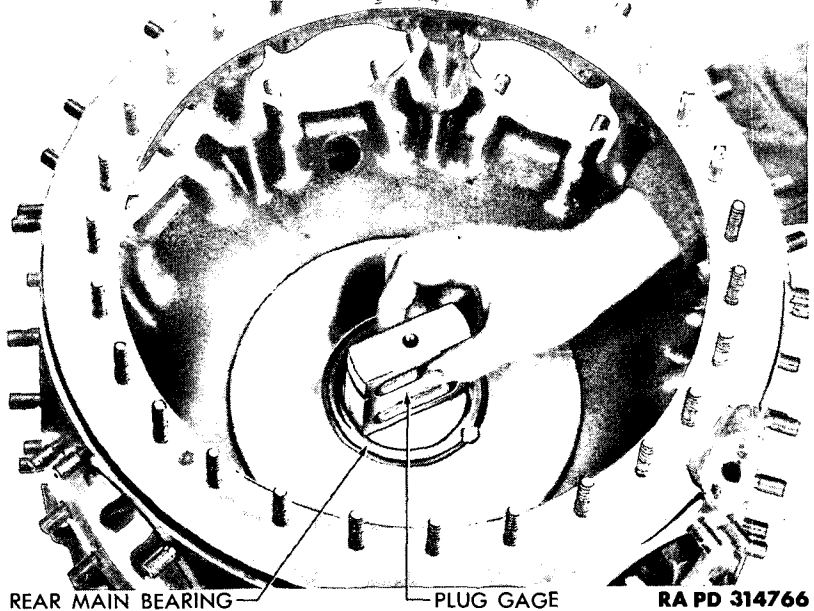
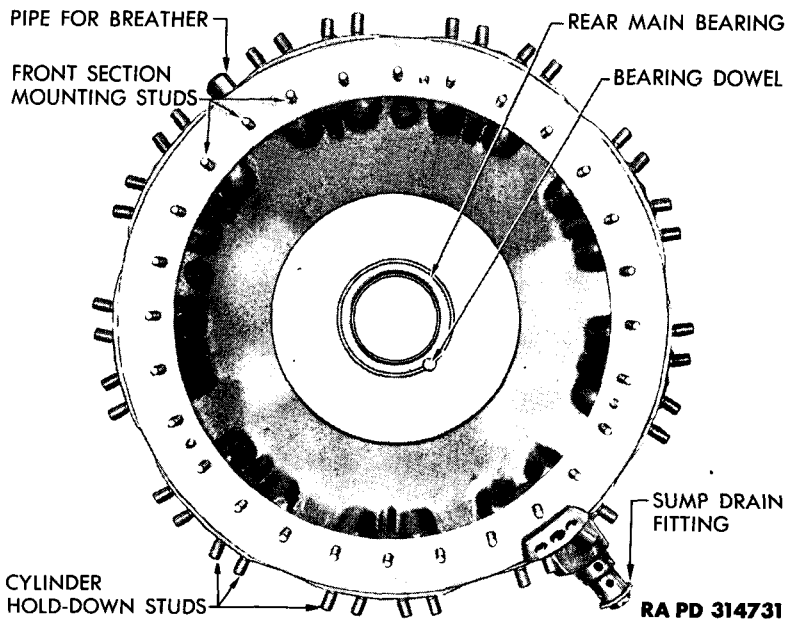

Figure 84 – Checking Rear Main Bearing Diameter
Figure 85 – Rear Main Bearing Dowel
b. Rear Main Bearing. Inspect rear main bearing for looseness. Check surface of bearing for scoring or indications of wear. Inspect the condition of the threads of the cam hub bearing support. Measure the diameter of the rear main bearing with micrometer or plug gage (fig. 84). If diameter does not measure between 3.2215 and 3.2225 inches or if bearing is scored or otherwise damaged, replace bearing. If bearing does not have to be replaced, check the dowel which locks the bearing to the crankcase (fig. 85). If dowel is loose, knock it out with punch, and press in an oversize dowel. After the oversize dowel has been installed, peen the main bearing flange slightly over the head of the dowel.